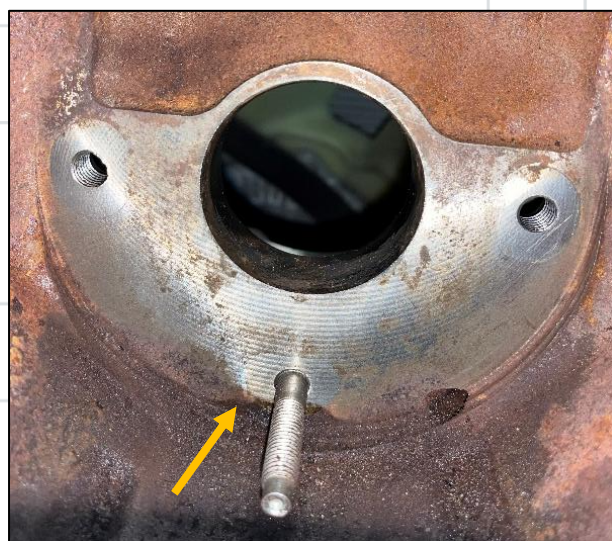

Figure 22: Pump Mounting Surface Cleanliness
2. Use a rag with a cleaning solvent and clean the area where the CP4 pump was located (Figure 22).